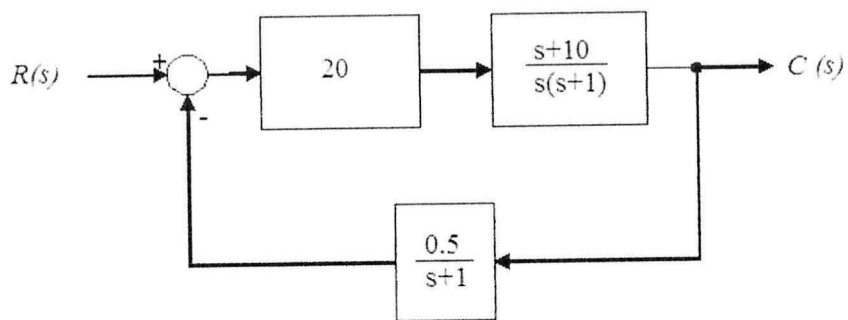

Figure Q5
Q5 **Figure Q5** shows a feedback control system. Based on the figure:
- (b) Sketch the Bode plot of the system described in **Figure Q5**. (14 marks)